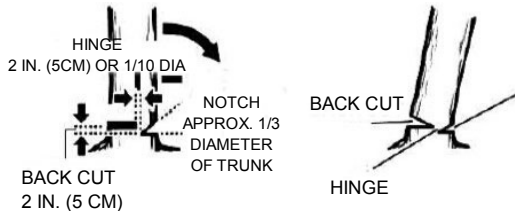

FIG. 27
**WARNING:** Never cut through to the notch when making a back-cut. The hinge controls the fall of the tree, this is a section of wood between the notch and back-cut.(Fig. 27)